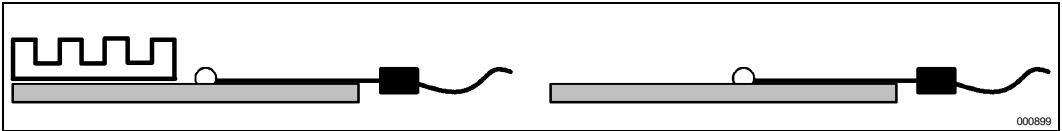

Figure 20. Technique for Measuring T_{PLATE} with 0° Angle Attachment
- The thermocouple should be attached at a 0° angle if no heatsink is attached to the thermal plate. If a heatsink is attached to the thermal plate but the heatsink does not cover the location specified for T_{PLATE} measurement, the thermocouple should be attached at a 0° angle (refer to Figure 20).